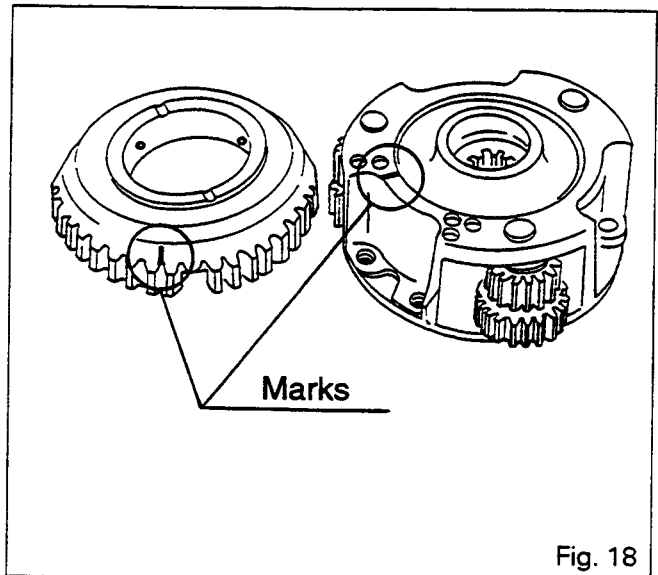

Fig. 18
**N.B. : Position the two covers so that the balancing marks (milled grooves or paint lines) are as far away from each other as possible (Fig. 18).**
52. Refit bolts (3). Bolts must be tightened to a torque of 10 - 14 Nm.
- that discs (42) and (45) are not compressed
55. Fit planetary carrier assembly (50) to shaft (5).
56. Fit Belleville spring disc (18).
57. Fit pressure plate (20) into housing (13).
58. Engage friction disc (21) onto the planetary carrier assembly.